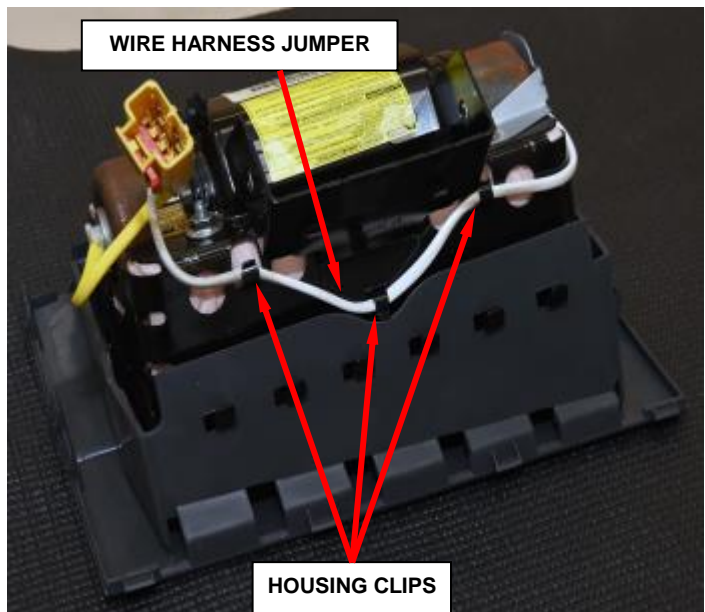

Figure 6 – Wire Harness Jumper
c. Disengage the wire harness jumper from the housing clips in three places (Figure 6).
- j. Engage the wire harness jumper under the housing clips in three places (Figure 6).